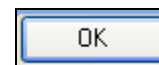

Figure 33.1.2
2. Click the **OK** button once the selection has been made (Figure 33.1.2).